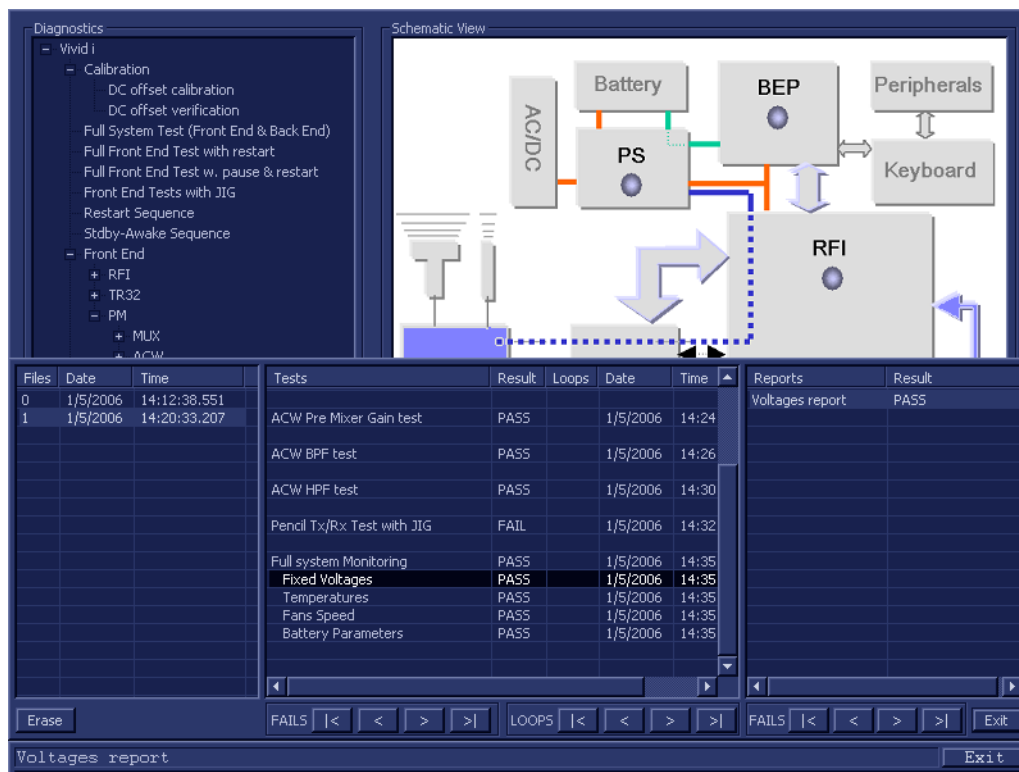

Figure 7-59 View Test Log - Full System Monitoring Test - Fixed Voltages
8.) Select the first report (Fixed Voltages); the report is highlighted in the *Reports* list, and the corresponding results are shown in the Report window below, as shown in Figure 7-59.
- 9.) Check that the sub-test passed and that result values are within the pre-defined *Max* and *Min* limits, as shown in Figure 7-59.
- 13.) Check that the sub-test passed and that result values are within the pre-defined *Max* and *Min* limits, as shown in Figure 7-59.